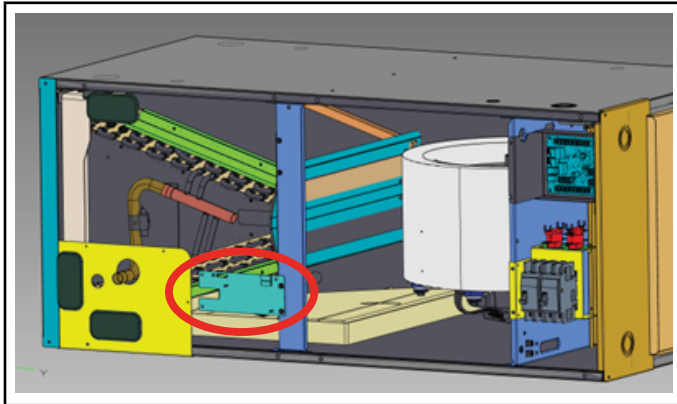

FIGURE 9
- 4 - Ensure sensor wire routes to the right hand side, as viewed from the front of the unit. The wire must route through the slotted opening in the center support bracket (see figure 9).